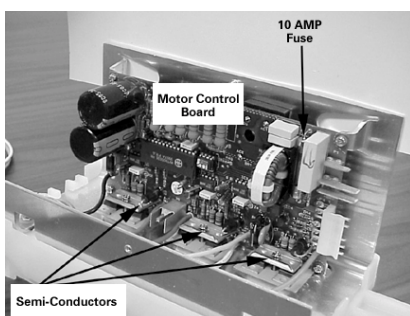

Figure 4-7
- a. Check the 10 amp fuse located on the control board, either visually or with an ohm meter. If bad, replace motor control/wire harness assembly completely. (*Figure 4-7*)